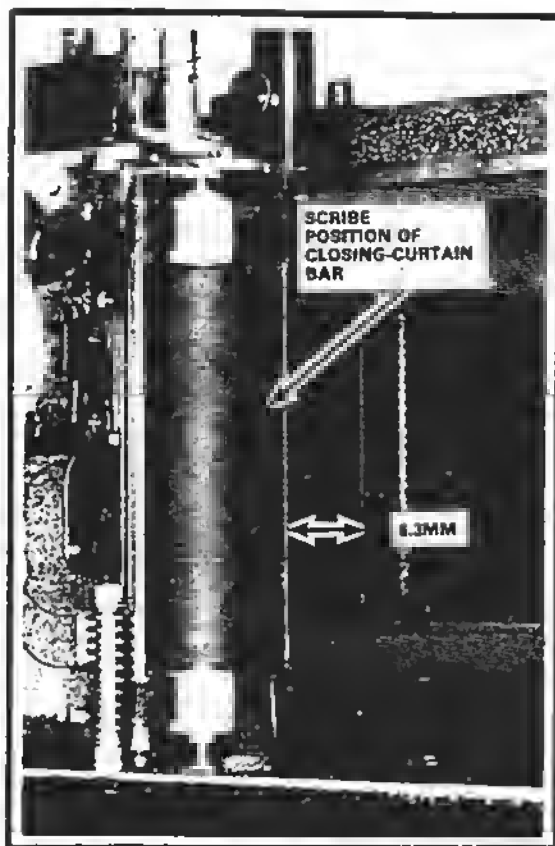

Figure 152
1. Hold open the shutter on bulb. Then, place a scribe line inside the body casting to mark the position of the closing-curtain bar, Fig. 152. Your scribe line shows you proper timing for the closing-curtain wind gear. When the closing-curtain latch holds the closing-curtain wind gear, the lead edge of the closing curtain should be a certain distance away from the focal-plane aperture -- the distance marked by your scribe line. You can adjust this distance by changing the timing between the closing-curtain wind gear and the closing-curtain winding roller.
On reassembly, first time the closing-curtain wind gear. Time the closing-curtain wind gear with the closing-curtain winding roller until the closing curtain comes to your scribe line, Fig. 152. Then, time the opening-curtain wind gear for the proper overlap during the cocking cycle.
The distance shown in Fig. 152 varies in different focal-plane shutters. In the Spotmatic, the proper distance is 6.3mm -- that's the distance between the lead edge of the focal-plane aperture and the lead edge of the closing curtain. By using the scribing technique, however, you don't need factory specifications.
Suppose, then, that you've set the distance shown in Fig. 152 to less than 6.3mm. That means the closing curtain sits too close to the focal-plane aperture when the closing-curtain latch is engaged. As a result, the closing curtain creeps into the aperture during the slow speeds.